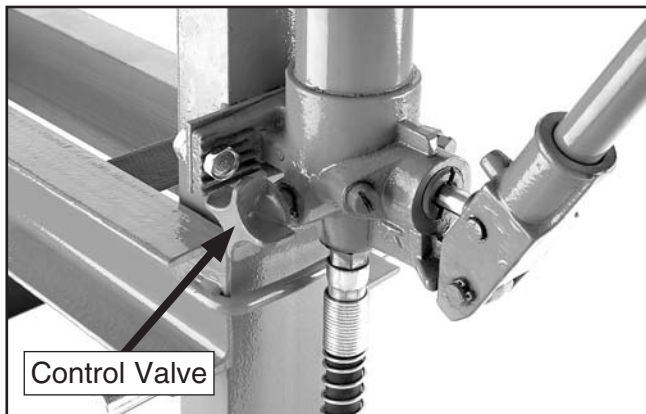

Figure 27. Control valve.
1. Open the control valve (**Figure 27**), and allow the press and the piston to fully retract until the pressure gauge reads zero.